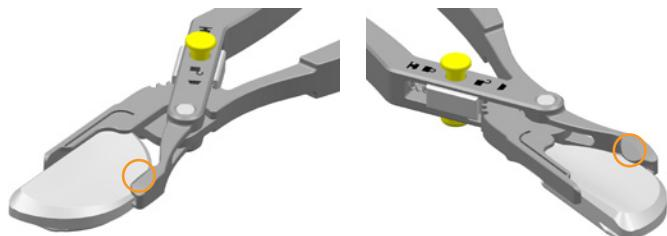

Figure 58
- 5 Carefully close the curved arm onto the insert, ensure the bumper of the curved arm rests on the articular surface of the insert circled below (Figure 58).